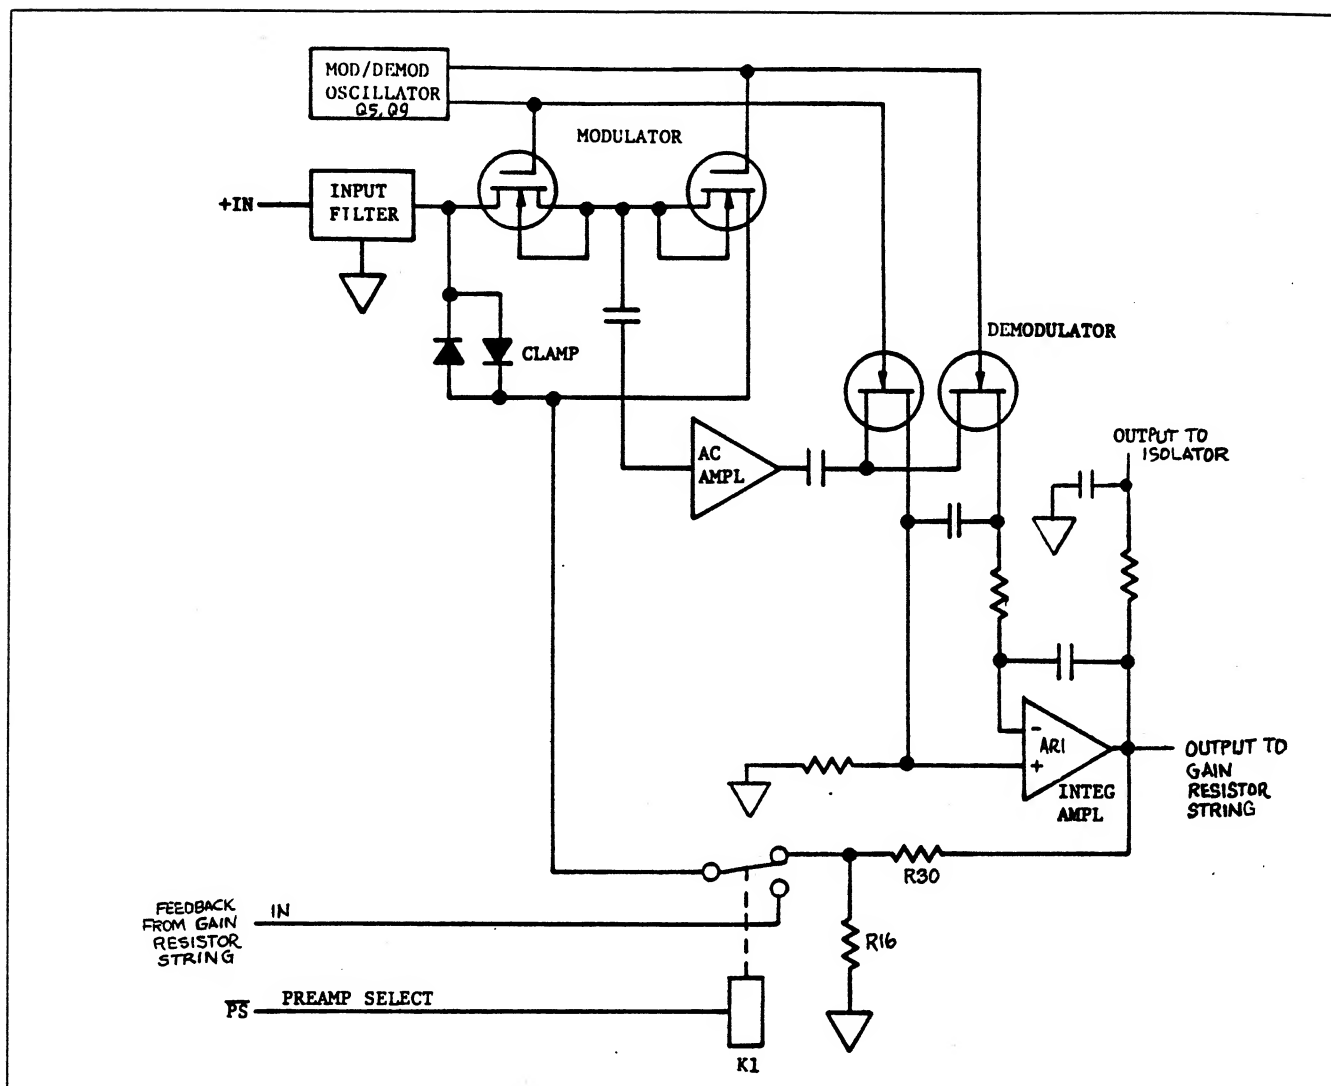

Figure 5.19 - Preamplifier
5.3.5.7.1 The Preamplifier (Figure 5.19) provides a signal gain of 725 in the 10 mV and 1 Ω ranges. The circuitry consists of a modulator, demodulator, oscillator, integrating amplifier and AC amplifier.